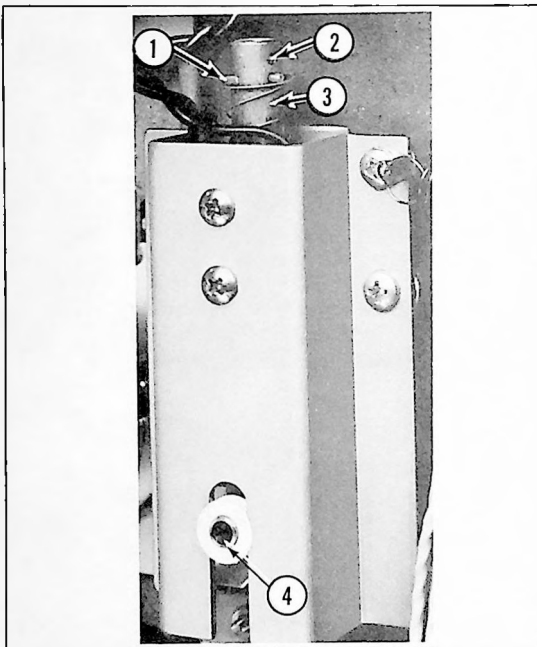

Figure 7-7
AUTOMATIC TAPE LIFTER ADJUSTMENT PROCEDURE (Figure 7-7)
- b. From the rear of the transport, push the plunger (1) down until it bottoms.
- d. If the tape does not clear the play head, again push and hold the plunger down until it bottoms. Then loosen the Allen setscrew which is accessible through hole in bottom tape lifter rod (4). Slowly move the plunger (3) up or down until the tape is lifted off the play head. Tighten setscrew. (See Figure 7-7.)